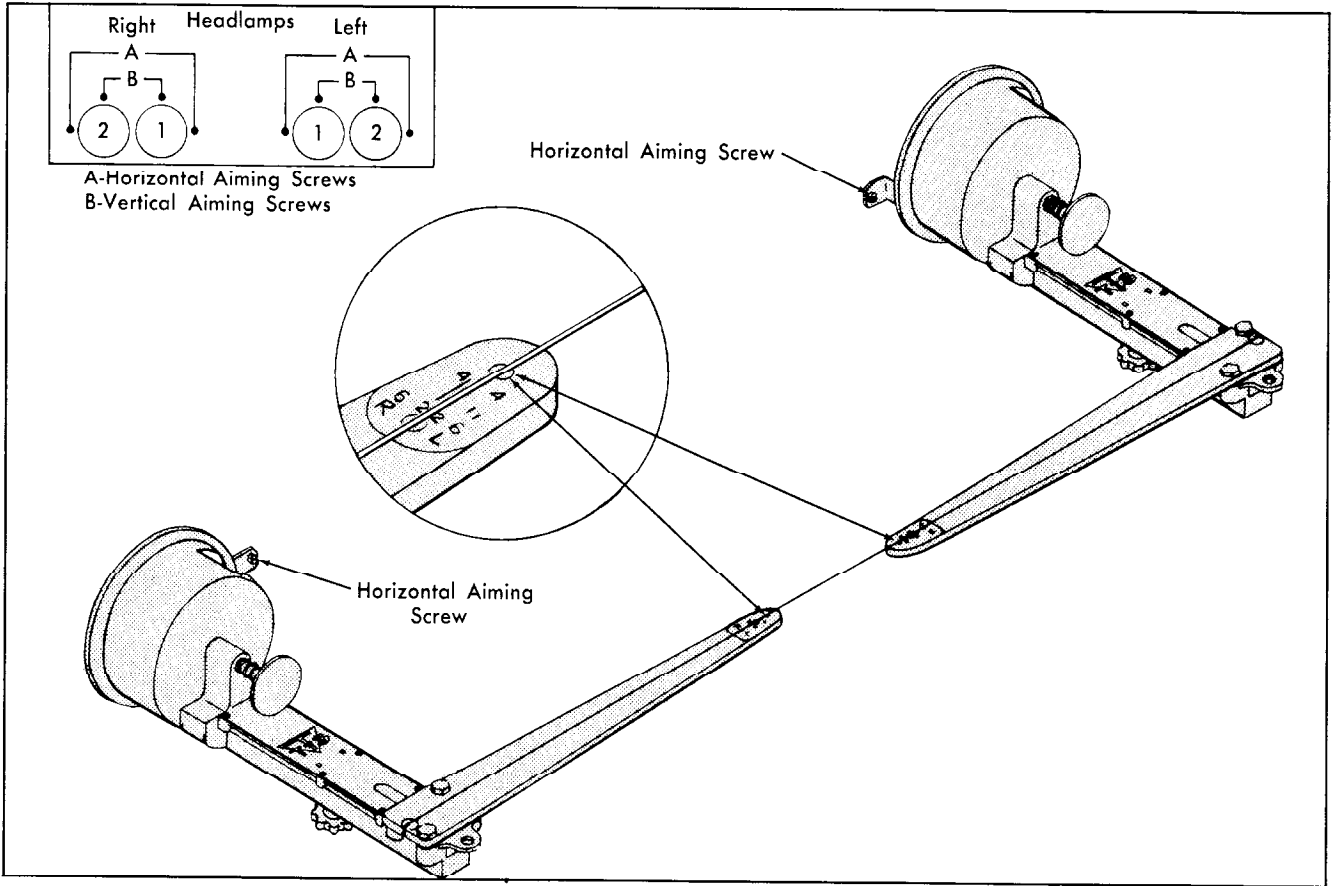

Fig. 13-82 Horizontal Aim
4. Fasten string to R.H. aimer. Rotate aimers until string just clears "F" and "G". (Fig. 13-82)